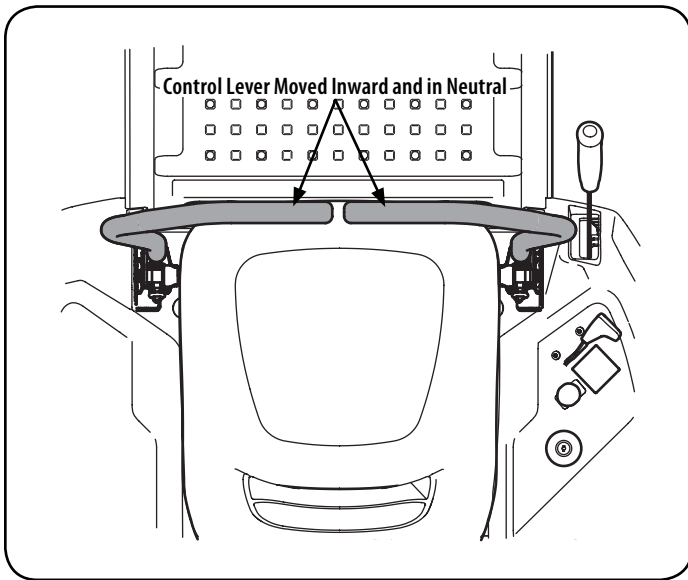

Figure 9
2. Move the RH and LH drive control levers inward in the neutral position. Refer to “Figure 9”.